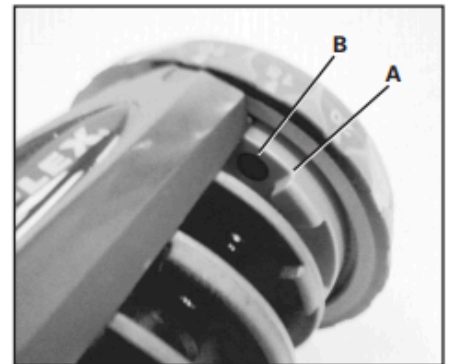

Figure 2
3. Look at the red inner plastic (A) near the top of each adjustment knob (Figure 2).